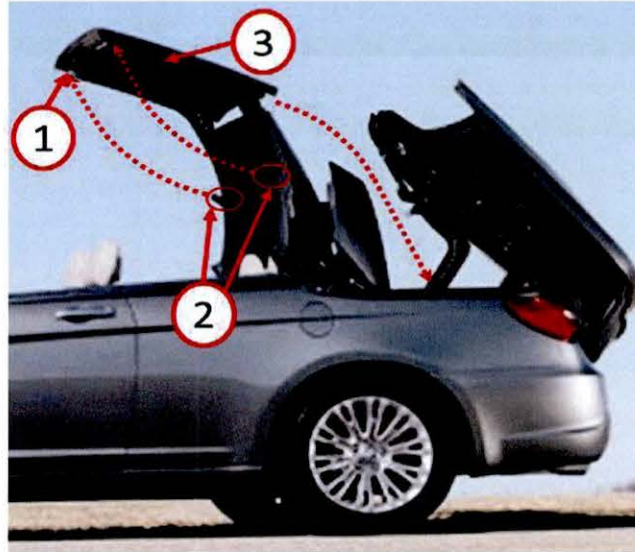

Fig. 1 Hard Top Down Capture System
The hard top assembly is equipped with a down capture mechanism which locks it into the stowed position when lowered. If the hook assembly (2) does not fully engage the down capture mechanism (1) the roof assembly may produce a rattle or clunk due to insufficient retention of the hard top at the hook assembly (Fig. 1). If the customer describes the symptom, perform the Repair Procedure.